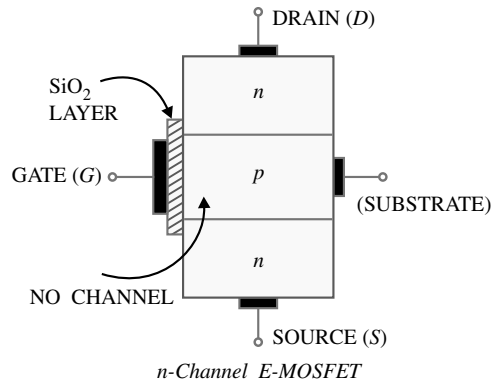

Fig. 17.52
2. **E-MOSFET.** Fig. 17.52 shows the constructional details of *n*-channel *E-MOSFET*. Its gate construction is similar to that of *D-MOSFET*. The *E-MOSFET* has no channel between source and drain unlike the *D-MOSFET*. Note that the substrate extends completely to the  $\text{SiO}_2$  layer so that no channel exists. The *E-MOSFET* requires a proper gate voltage to *form* a channel (called *induced channel*). It is reminded that *E-MOSFET* can be operated *only* in enhancement mode. In short, the construction of *E-MOSFET* is quite similar to that of the *D-MOSFET* except for the absence of a channel between the drain and source terminals.